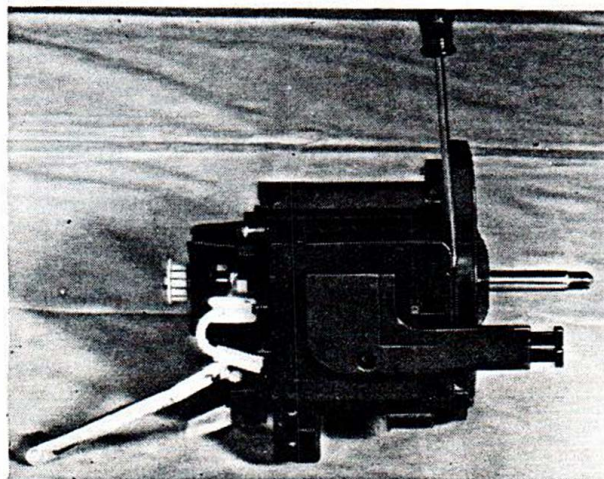

Figure 29. Power Switch Replacement
- A. See Figure 29. If any leads remain attached to the switch, remove them.